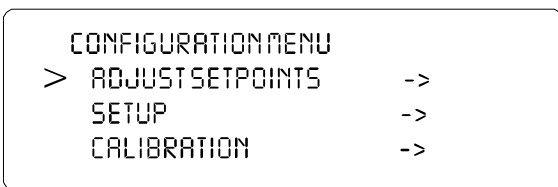

FIG. 3-11 CONFIGURATION MENU/SELECTING ADJUST SETPOINTS
Step 1. Press the Setup/3 button. The Configuration Menu appears. (See Fig. 3-11)